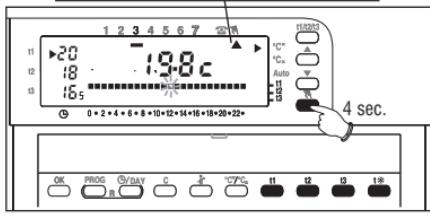

Fig. 35
- Press  for approx. 4 seconds until the indicator  , beneath  , will remain lit and the current temperature level will be applied to the 24 hours (fig. 35).